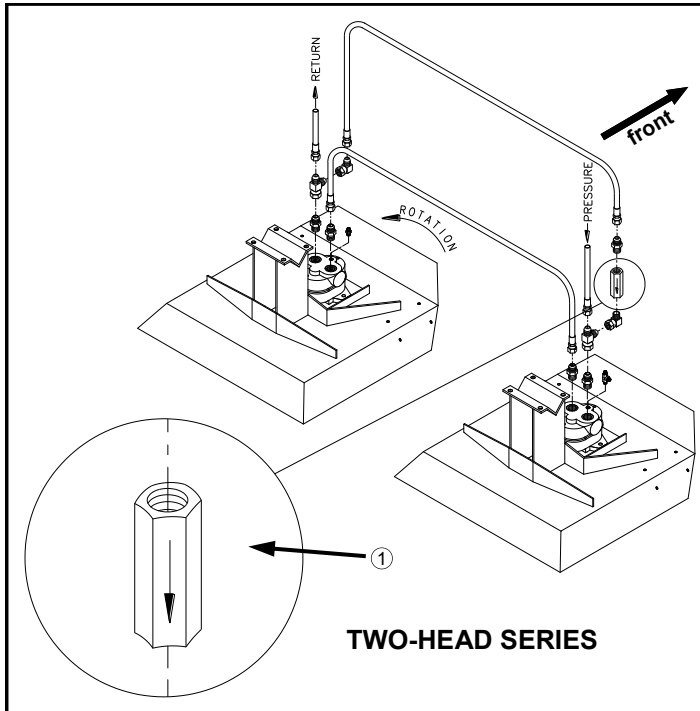
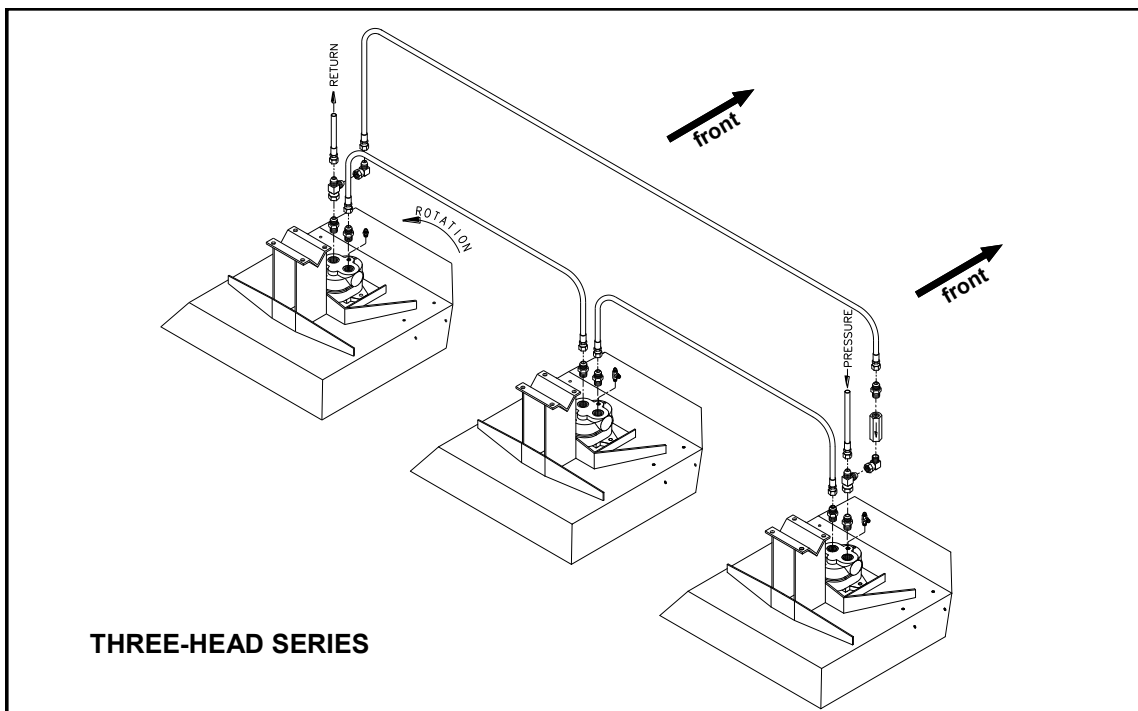

FIG 4.23
FIG 4.24
Hydraulic hoses on cutter heads should be hooked up so blades on heads mounted left of operator rotate according to figure 4.23 and figure 4.24 (counter-clockwise from above). Refer to 204 & 204SP DETASSELER Parts Manual for correct hardware, hose lengths, and hydraulic schematic.
Care should be taken when installing check valve (fig. 4.23, item 1) on cutter motor so the flow arrow is oriented correctly (either two-head or three-head series).